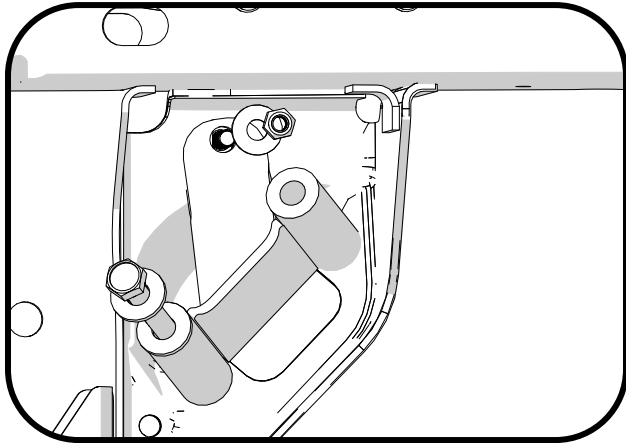

Figure 1
2. Locate and install the left rear shock extension. Using the supplied 5/16" bolt and nut, hold the extension bracket into place. Start one of the M10 x 90 mm long bolts. (Figure 1)